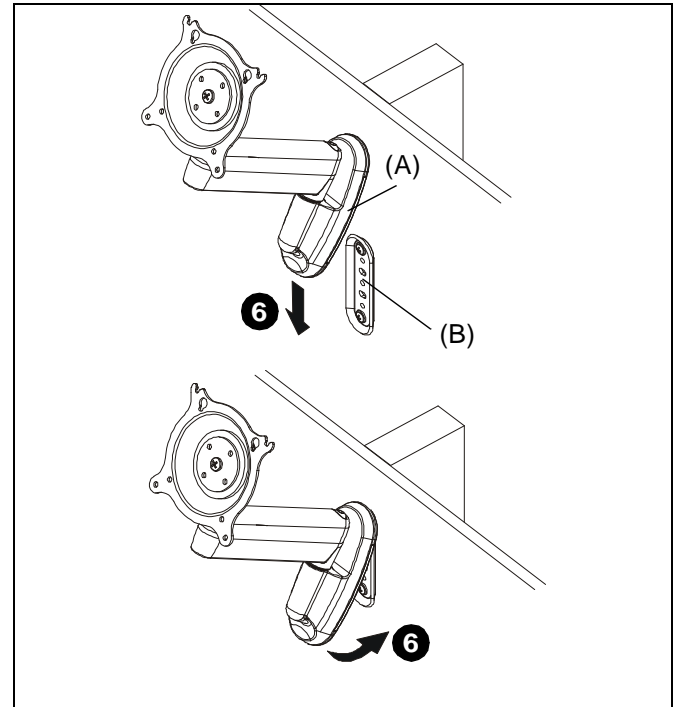

Figure 2
5. Using the 3/16" hex key (G), tighten the button head cap screw until the desired amount of pivoting friction is achieved.
6. Install the KSA1001 on the wall bracket by placing the top of the KSA1001 over the top of the wall bracket and pushing the bottom of the KSA1001 over the bottom of the wall bracket. (See Figure 2)